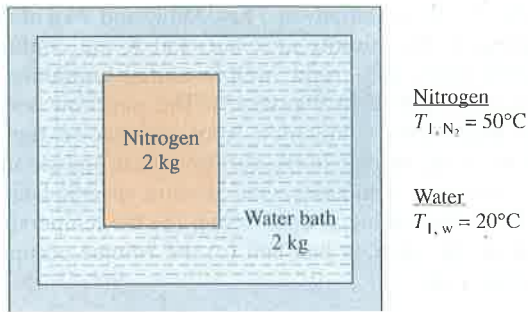

Fig. P3.133
- 3.133** Two kg of nitrogen (N_2) gas is contained in a closed, rigid tank surrounded by a 10-kg water bath, as shown in Fig. P3.133. Data for the initial states of the nitrogen and water are shown on the figure. The entire unit is well insulated, and the nitrogen and water interact until thermal equilibrium is achieved. The measured final temperature is 34.1°C. The water can be modeled as an incompressible substance, with $c = 4.179$ kJ/kg · K, and the nitrogen is an ideal gas with constant c_v . From the measured data, determine the average value of the specific heat c_v , in kJ/kg · K.